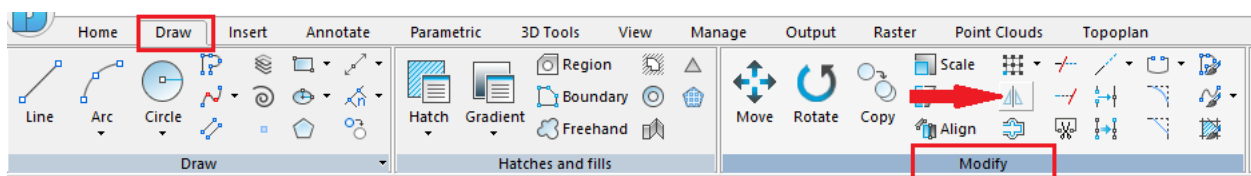

Fig. 15. Mirror
3. Select all objects by fence. Then use the Mirror command (fig. 15), it is located on the ribbon tab Draw – Modify – Mirror